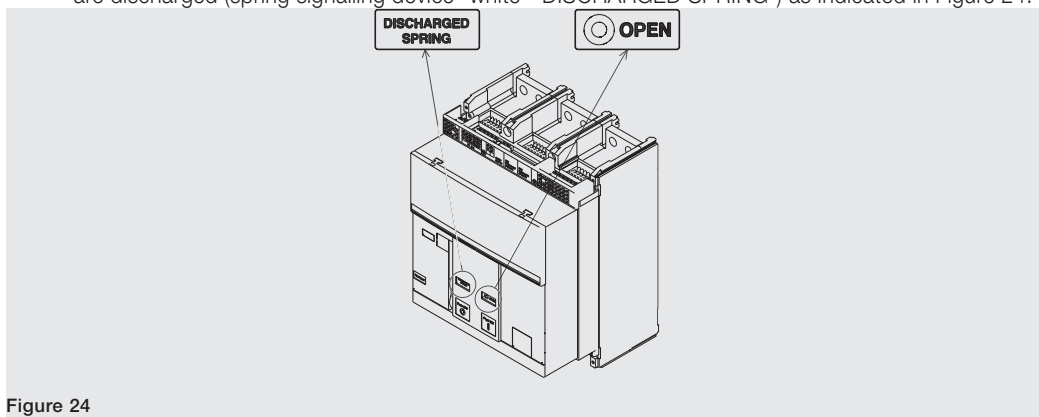

Figure 24
7. Check that the circuit-breaker is open (open / closed indicator "O - OPEN"), and check that the springs are discharged (spring signalling device "white - DISCHARGED SPRING") as indicated in Figure 24.